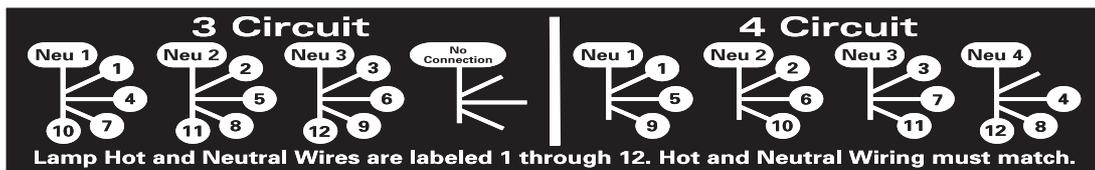

Figure 7
6. The fourth terminal block from the left is not used and is left empty. See **Figure 7** for detail.
6. In the fourth terminal block from the left, insert the wires labeled 4,8,12. See **Figure 7** for detail.